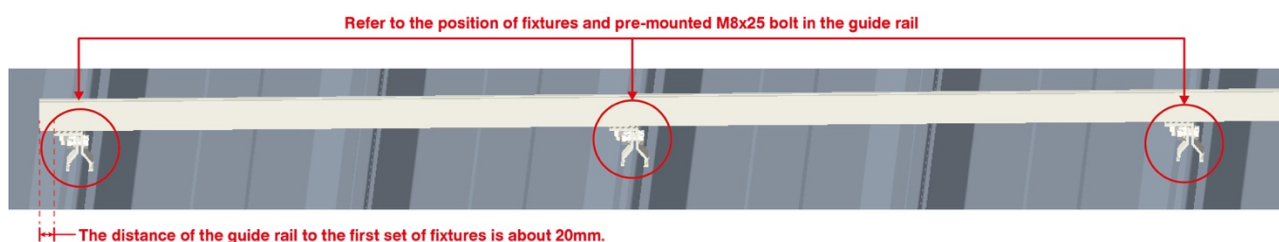

Figure 1 Pre-installation of M8x25 bolts on the guide rail
Step 4. Refer to the position of the fixtures on the steel sheet, pre-install the M8x25 bolts to the guide rail (Figure 1); install two more M8x25 bolts (Figure 2) at each of the end-to-end connections of the two guide rails to lock the guide rail connector.